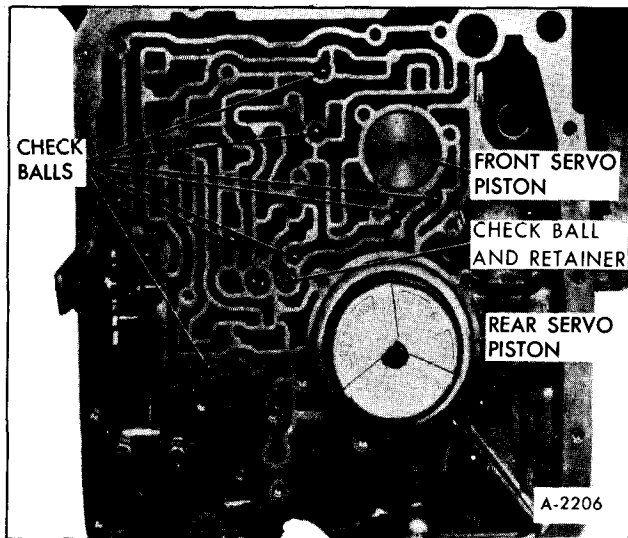

Figure 89—Check Ball Location
1. Install seven check balls in cored passages, Figure 89. (Use petrolatum to retain balls in case.)